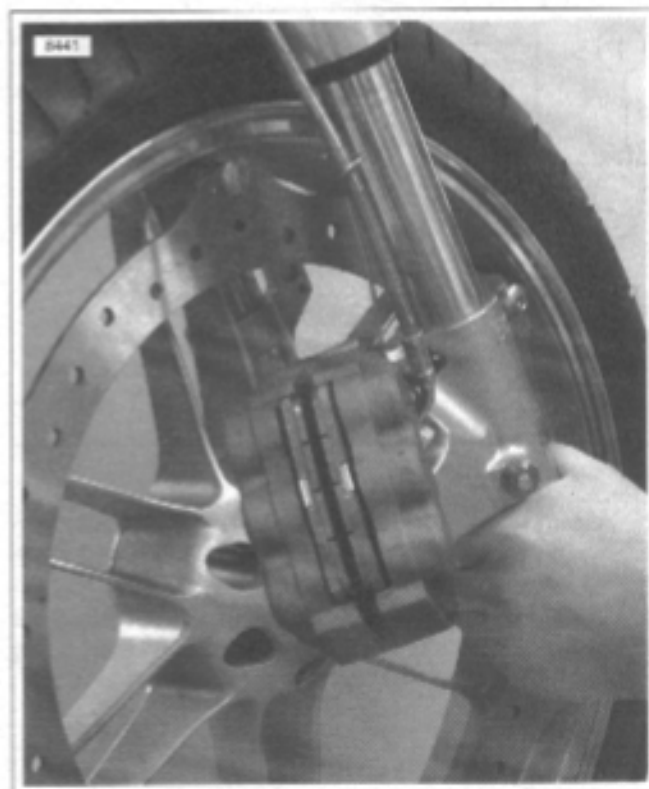

Figure 2-6. Front Wheel Removal and Installation
5. See Figure 2-6. Raise the wheel up until the rotor clears the caliper and rotate the fork leg counterclockwise allowing wheel clearance for removal.